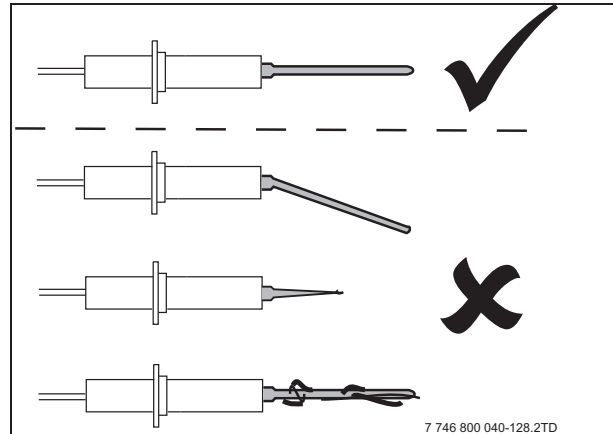
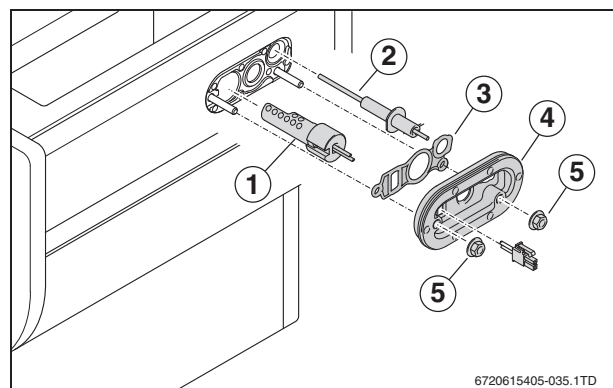

Fig. 85 Checking the ionization electrode
Fig. 86 Replacing the ignition unit
- Check the individual components of the ignition unit (fig. 86) for wear or contamination (fig. 85).